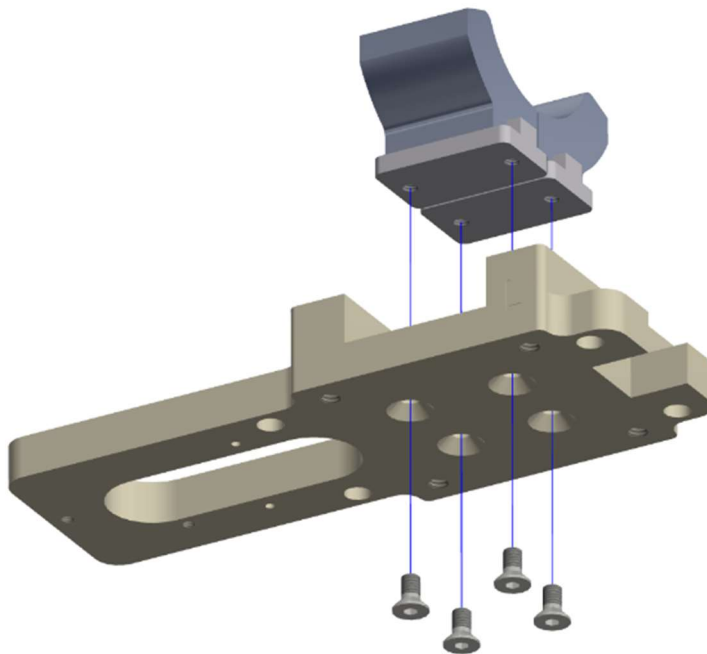

Figure 10-45. Install the Inversion and Eversion Stop Assembly (474-5813-A and 474-5816-A)
- 10.3.10 Install the Inversion and Eversion Stop Assembly (474-5813-A and 474-5816-A) using four M3 X 0.5 X 6 LG. FHCS on the bottom of the Lower Ankle Plate (Figure 10-45).